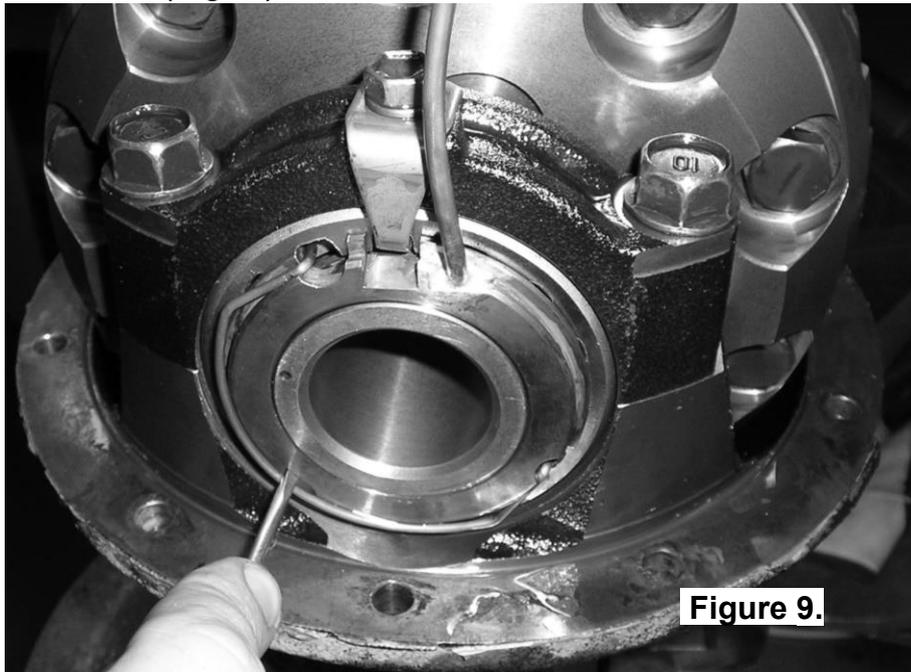

Figure 9.
- Install the spring clip by first hooking both ends of the clip into the small aligned cutouts of the seal housing and the adjuster nut, and then snapping the clip into the groove of the seal housing using a screwdriver. (Fig.9.)